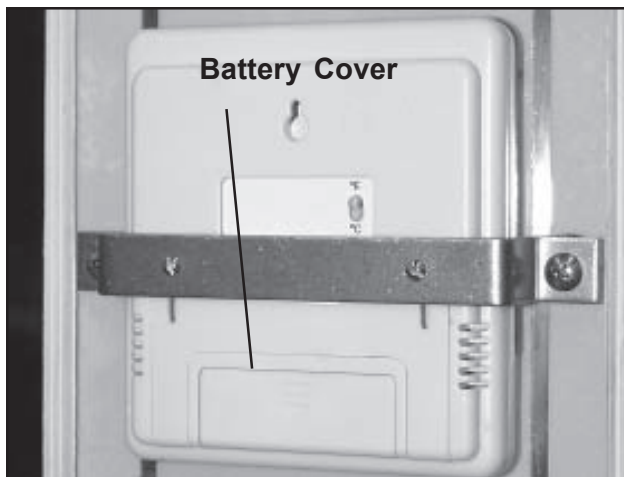

Figure 71. Digital Readout Battery Cover
2. On the rear of the digital readout, remove the battery cover (Figure 71).